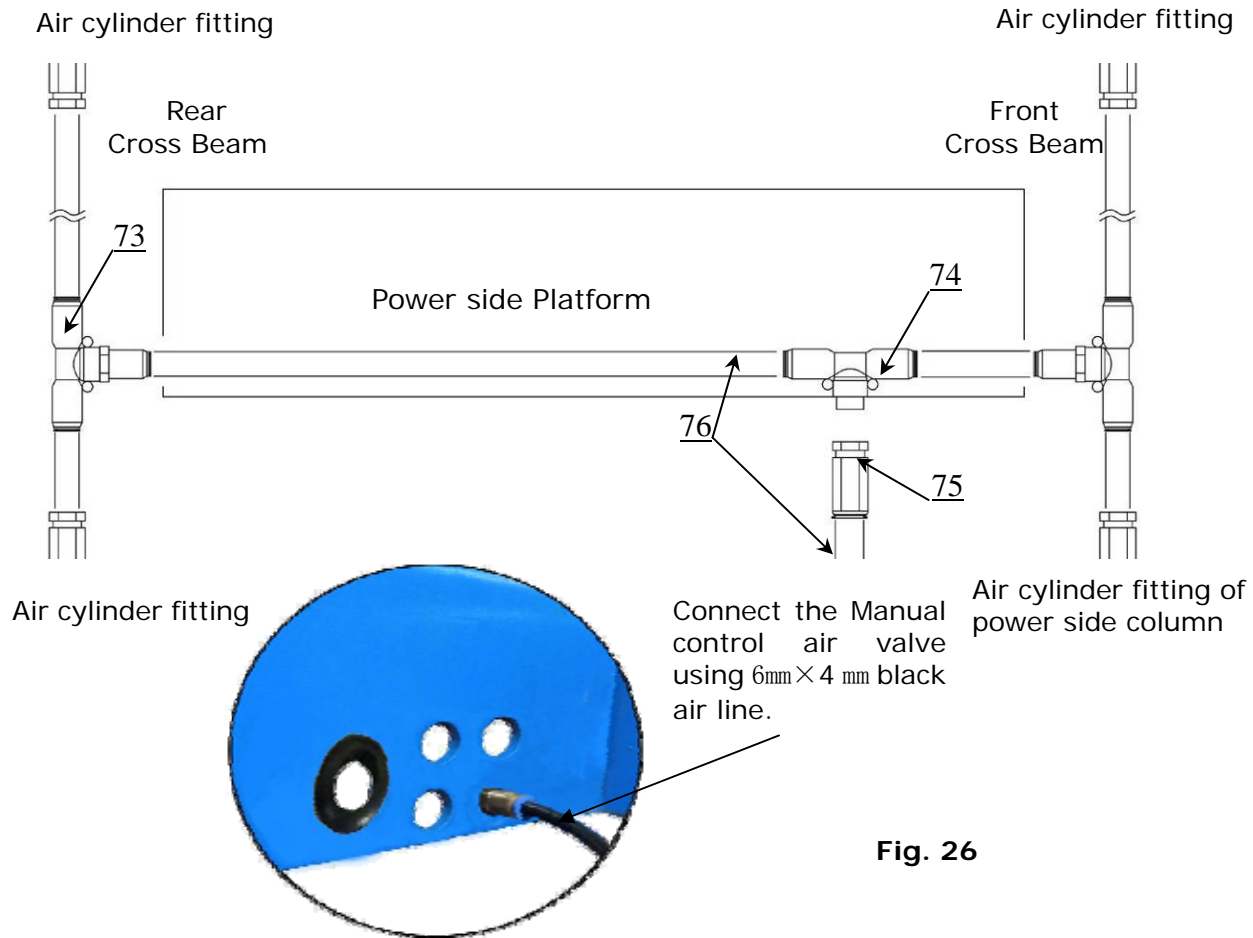

Fig. 26
1. Connect the front and rear Cross Beam air lock cylinders by using 6mm × 4mm black air line (See Fig. 26).
2. Connect manual air control valve using 6mm × 4mm black air line (See Fig. 26).